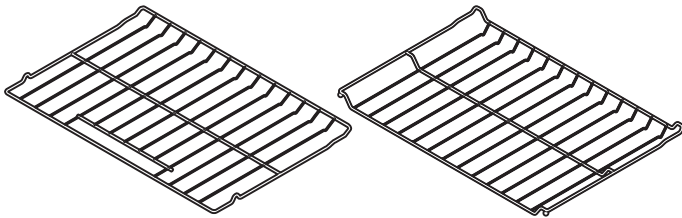

Figure 1 - All models
- **Flat handle oven rack** (All models- Figure 1).